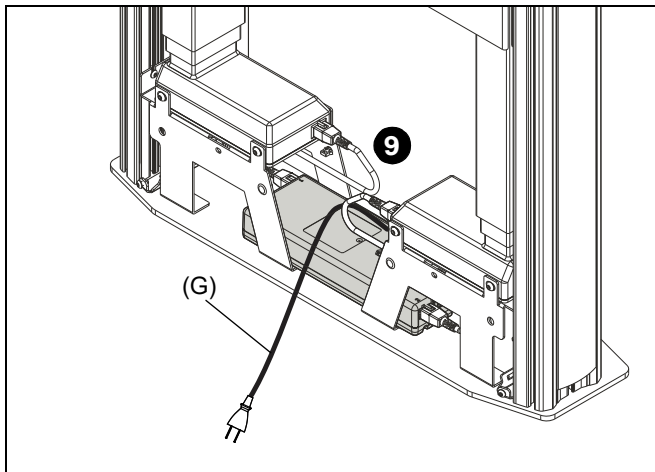

Figure 5
9. Plug in power cable (G) to power supply. Provide strain relief using the cable tie (E) on nearest cable clip. (See Figure 5)